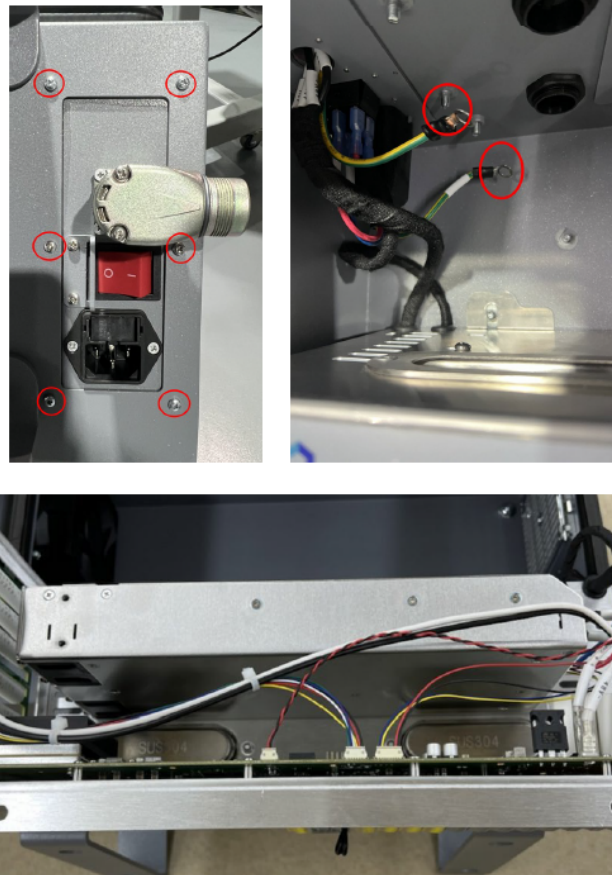

Figure 3-24: Screw position, power ground connection location and sheet metal module placement
3. Remove the screws on the connector mounting plate, disconnect the ground from the box to power socket and the equipment connector. Take the sheet metal module out from the box and place it on the box bracket as shown in **Figure 3-24** .